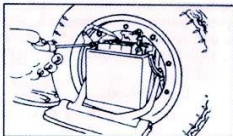

Fig. 45
- 4.2.3 Remove the screw securing ground cable (black) connected to the negative (-) battery terminal by using the end of the screw driver from your tool kit. (Fig. 45)